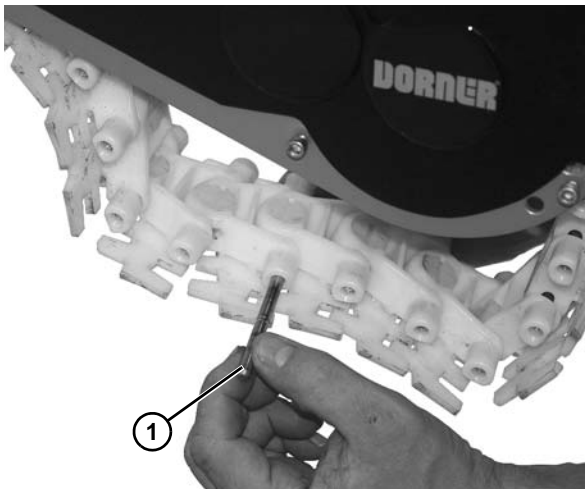

Figure 119
1. Use chain removal tool or a punch and hammer to push the chain rod (**Figure 119, item 1**) out.